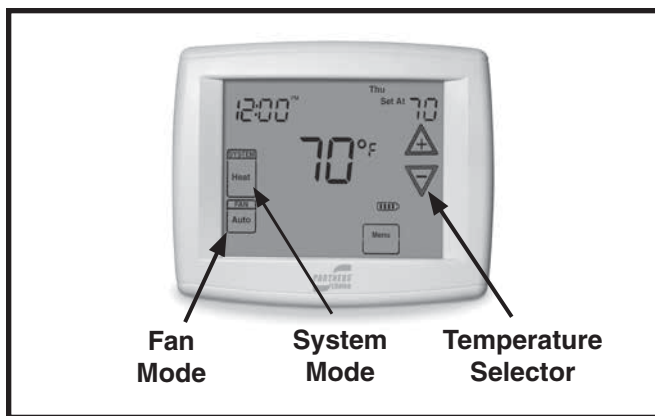

Figure 1. Digital Thermostat
1. Set the thermostat's system mode to COOL or AUTO and change the fan mode to AUTO. See Figure 1 (page 3).
1. Set the thermostat's system mode to HEAT or AUTO and change the fan mode to AUTO. See Figure 1.
Set the thermostat fan mode to ON (Figure 1). The indoor blower starts immediately, and will run continually until the fan mode is reset to AUTO.
Change the thermostat's system mode to OFF and the fan mode to AUTO. See Figure 1. **NOTE:** The system will not operate, regardless of the temperature selector setting.